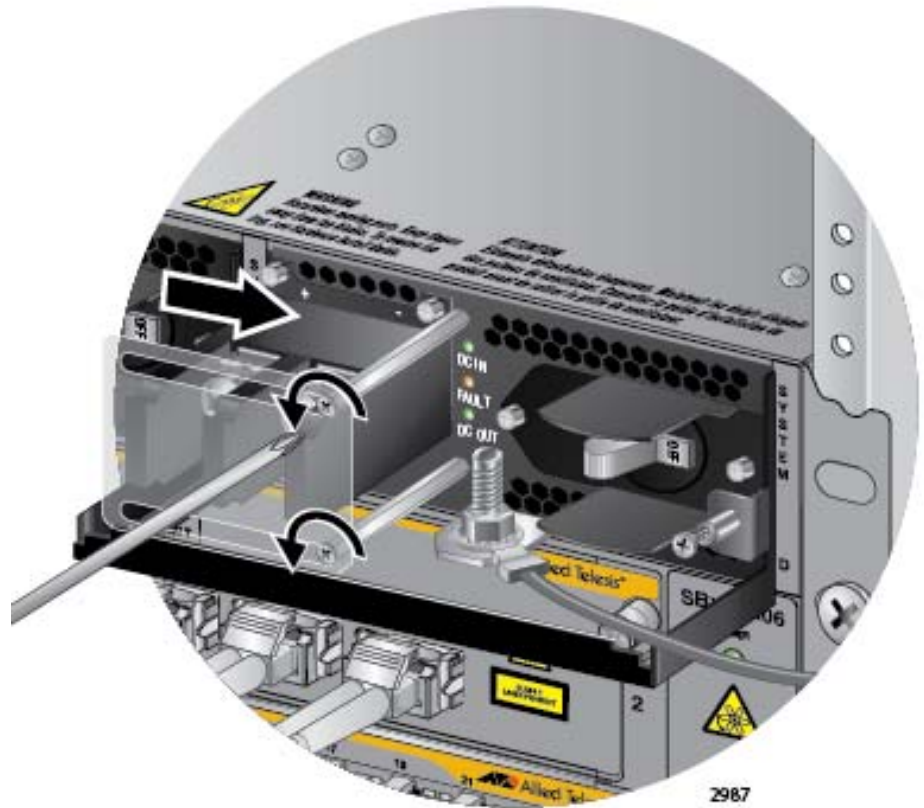

Figure 144. Opening the Plastic Cover
4. Use a #1 Phillips-head screwdriver to loosen the two screws on the plastic cover over the positive and negative terminals on the power supply and slide the cover to the right, as shown in Figure 144 on page 221. You may need to slightly lift the locking handle to access the bottom screw.
2. Use a #1 Phillips-head screwdriver to loosen the two screws on the plastic cover over the positive and negative terminals on the power supply and slide the cover to the right, as shown in Figure 144 on page 221. You may need to lift the locking handle slightly to access the bottom screw.